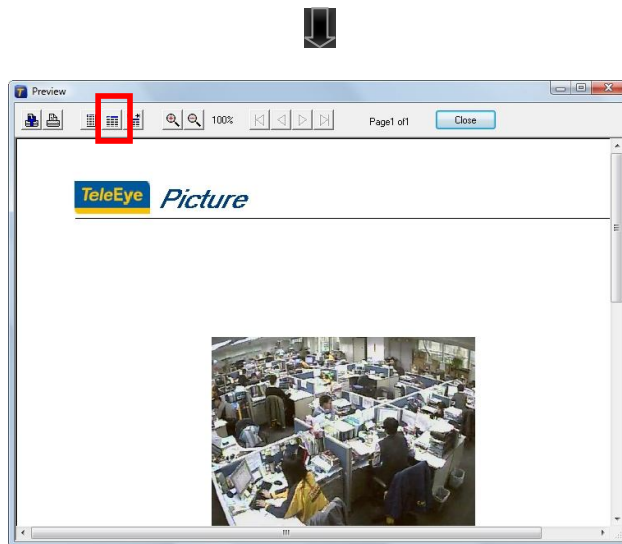

Fig 11.2e
Step 3: Click [**100%**]  icon to preview the picture in 100% A4 paper size as shown in **Fig 11.2e**.